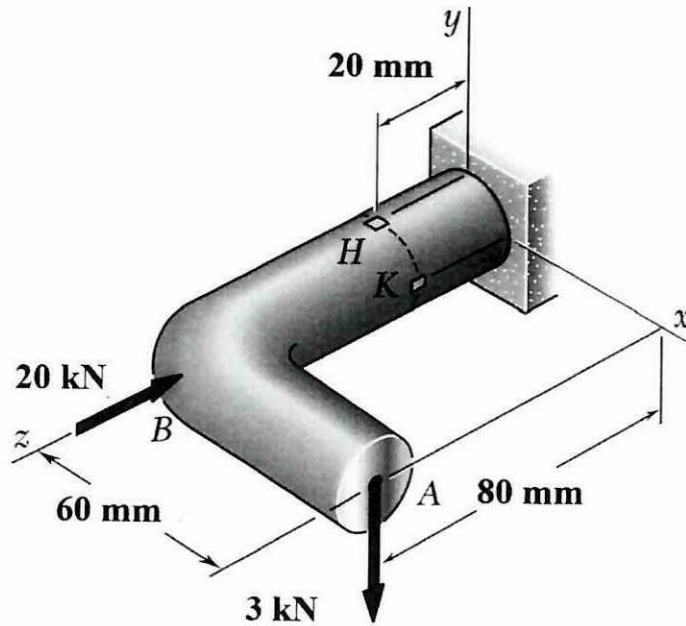

Figure Q1: Solid cast-iron bracket
- Q1** Figure Q1 shows few loadings are applied at points A and B of the solid cast-iron bracket. Knowing that the bracket has a diameter of 20mm,